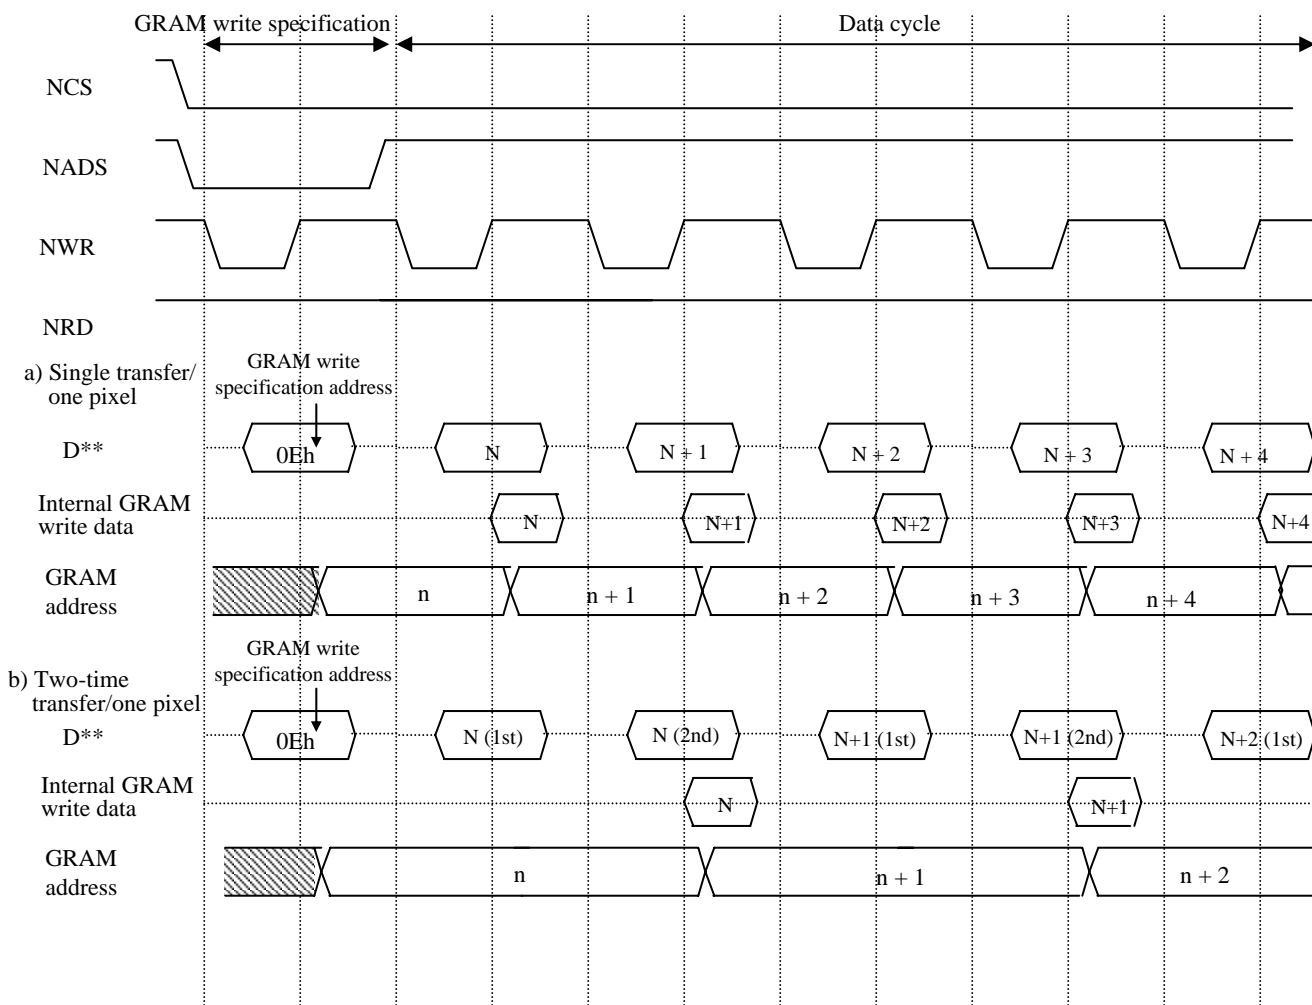

Fig. 6.1.6 (1) GRAM Write
(2) GRAM Read Access
As shown in figure 6.1.6 (2), GRAM read access is performed at the address set cycle (for GRAM read specification) and the data read cycle.